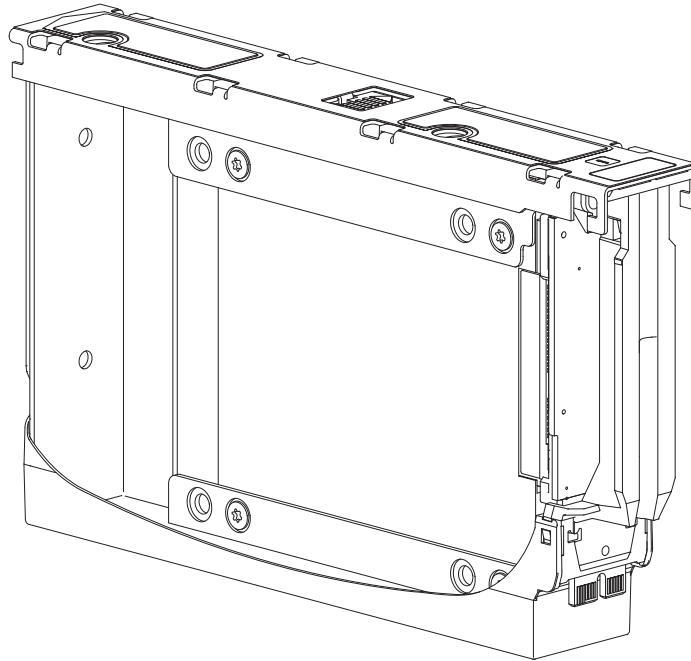

Figure 45 DDIC with adapter and 2.5" disk
Figure 45 shows a DDIC with an adapter and a 2.5" disk.
- See Figure 45 for the DDIC holding the 2.5" disk with 3.5" adapter